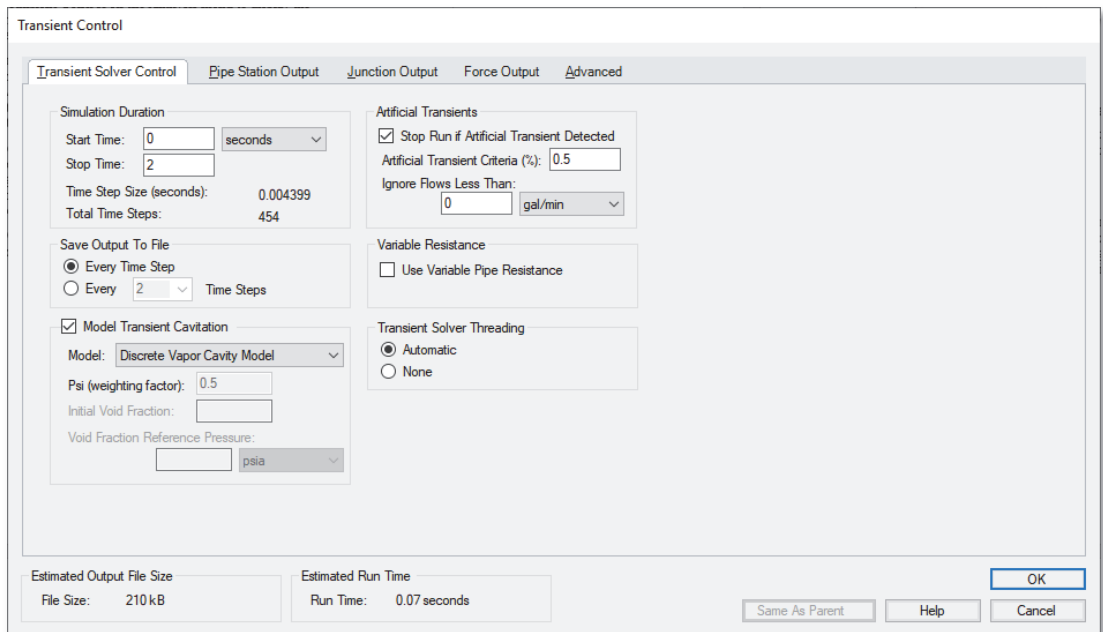

Figure 2.16 The Transient Control window offers features to specify the time span for the transient and what output data is written to disk
- **Select Transient Control on the Analysis menu** to display the Transient Control window (Figure 2.16). Enter 0 seconds in the Start Time field and 2 seconds in the Stop Time field.